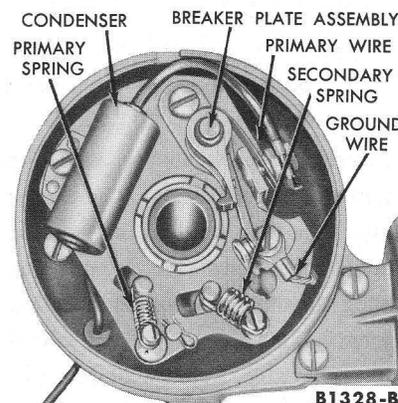

FIG. 12—Breaker Plate Installation
5. The breaker plate is shown installed in Fig. 12. Position a new breaker point assembly on the breaker plate. Be sure the pivot pin enters the hole in the breaker plate.